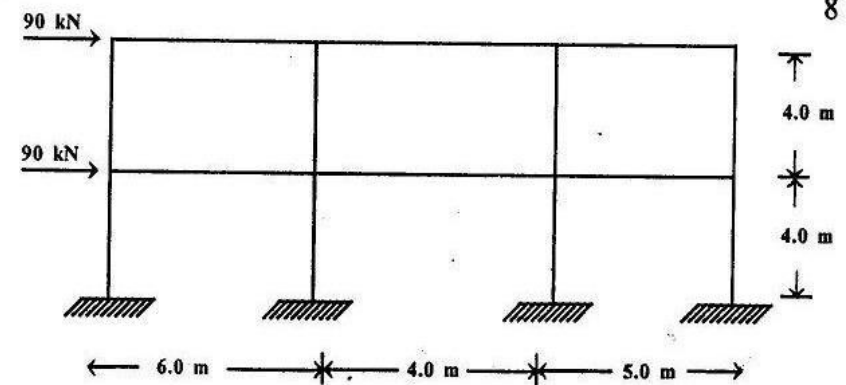

Fig.6
b) Analyse the frame shown in figure 6 by portal method. 8